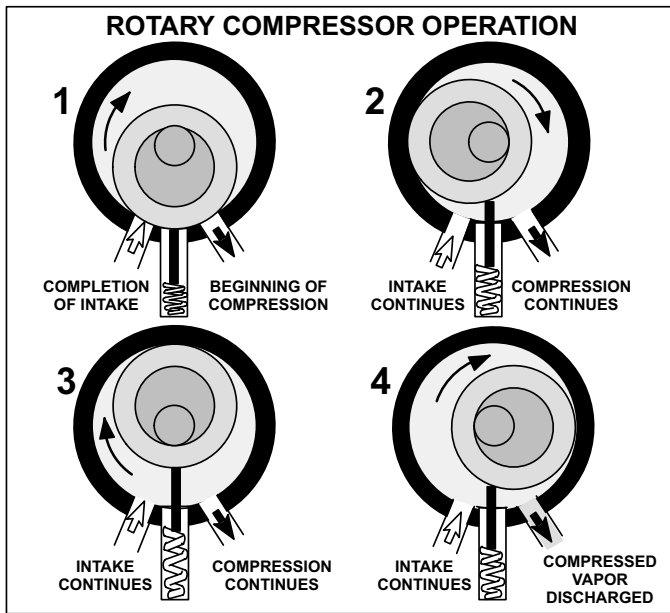

FIGURE 4
Figure 4 illustrates the four steps in a rotary compressor's continuous intake cycle. The spring-loaded blade is compressed fully at the beginning of an exhaust cycle. At this instant the compression is beginning (1). The roller rotates and compression continues (2). The suction port is always separated from the discharge port (3). Intake continues and the compressed vapor is discharged (4).